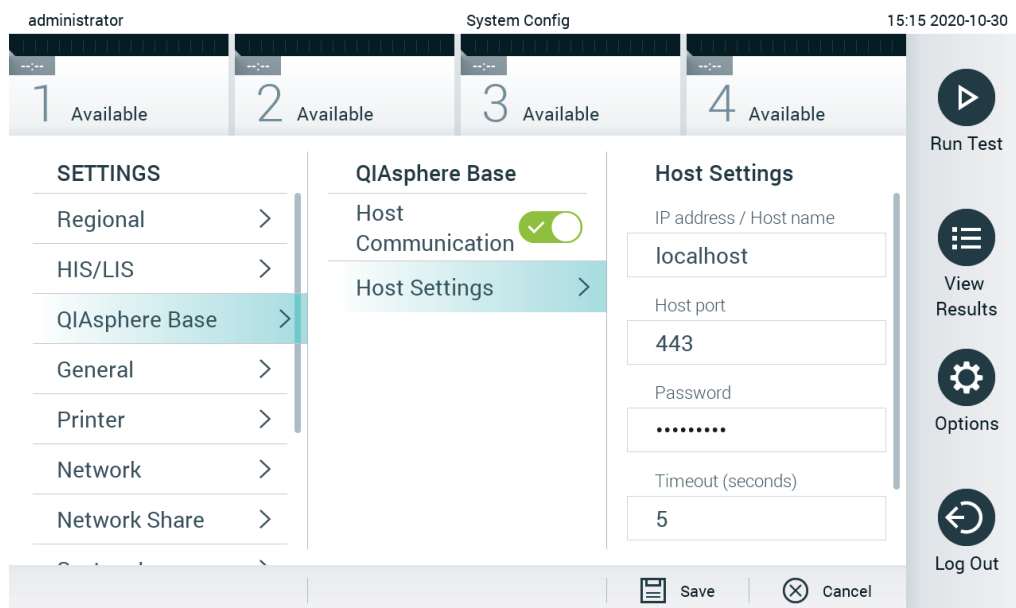

Figure 66. Configuring the QIASphere Base connection
2. Select **QIASphere Base** from the settings list in the left column (Figure 66).